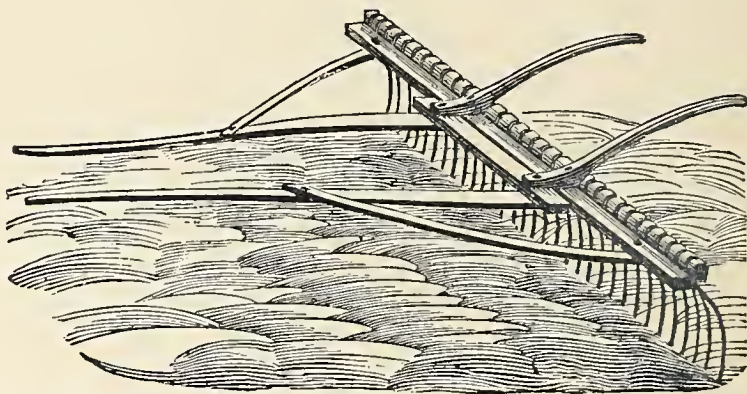

Fig. 385.—Wire Spring-Tooth Horse Hay-Rake.
**The Wire Spring-Tooth Horse Hay-Rake**, represented by *Fig. 385*, is desirable for use on new, rough ground, where it has some advantage over those with wooden teeth. The teeth are made of stiff, elastic wire, on the points of which the